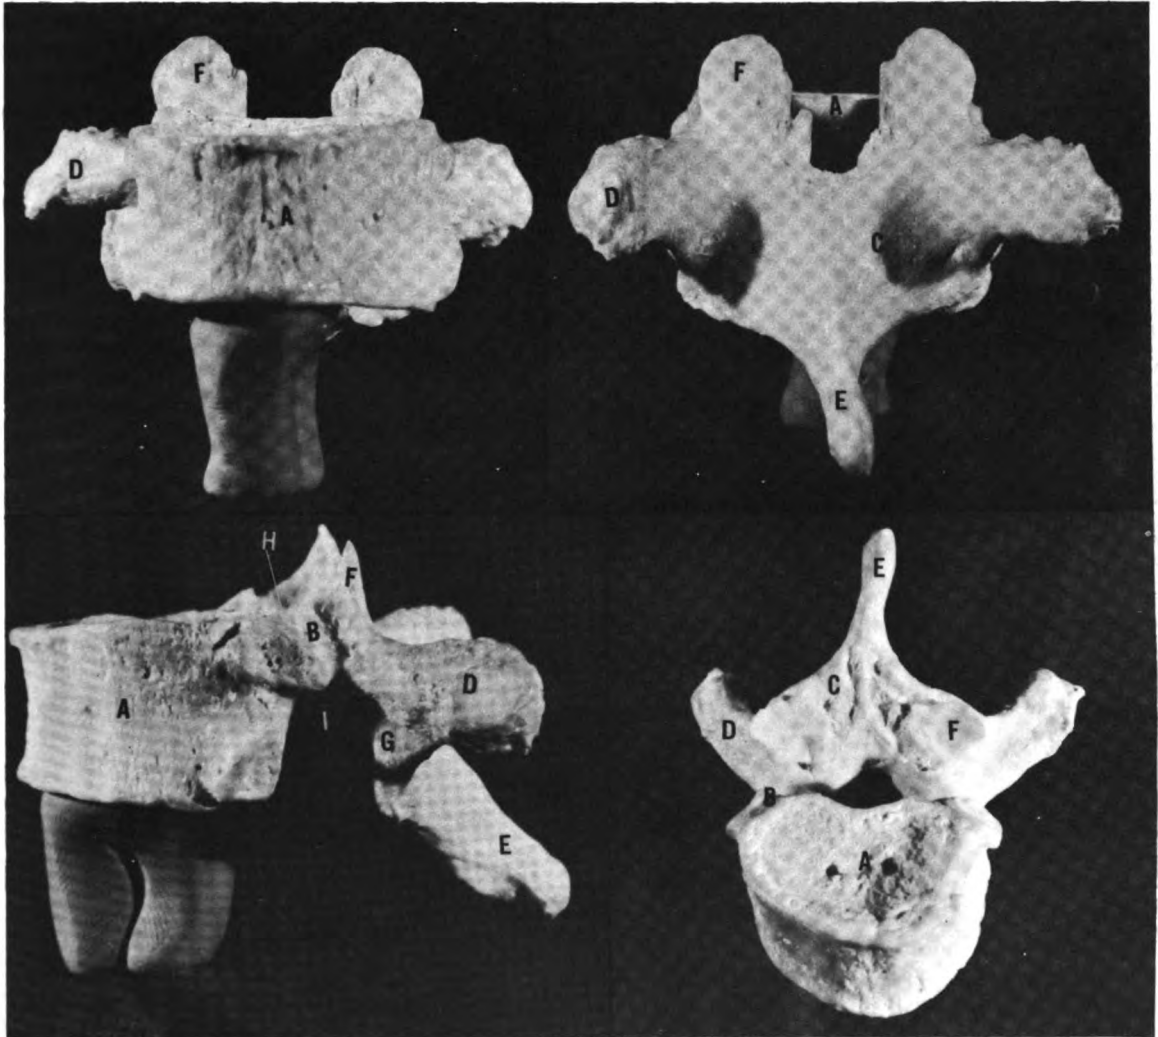

Figure 4-17 A Typical Vertebra - AP, PA, Lateral and Superior Views
A typical vertebra of the column will have a BODY (A), TWO PEDICLES (B), TWO LAMINAE (C), TWO TRANSVERSE PROCESSES (D), ONE SPINOUS PROCESS (E), TWO SUPERIOR ARTICULAR PROCESSES (F) AND TWO INFERIOR ARTICULAR PROCESSES (G). THERE WILL ALSO BE A SUPERIOR (H) AND INFERIOR VERTEBRAL NOTCH (I) ON EITHER SIDE. Between each vertebra will be an intervertebral disc (Figure 4-17).